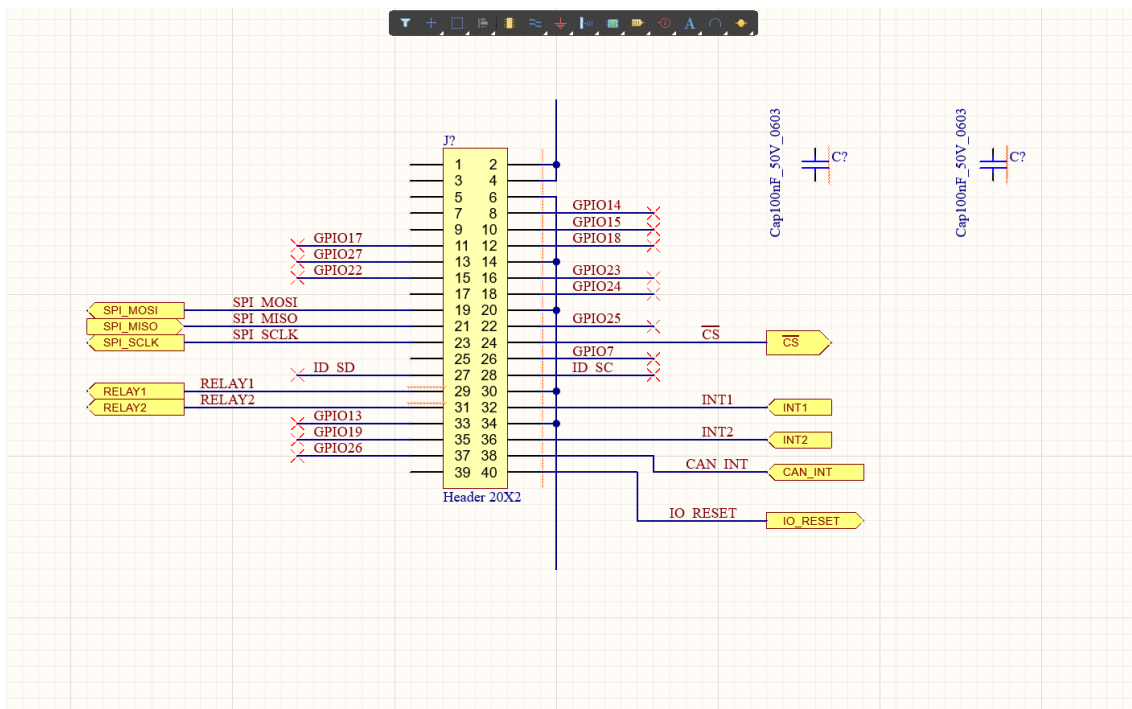

Figure 7. Processor Interface
15. From the project `Module 09 Making the Connection - [Your Name]`, open the `Processor_Interface.SchDoc`. It contains a partially completed schematic as shown in Figure 7, in this exercise you will complete the remaining connections on this schematic by adding wires and net labels, as well as signal and power ports.